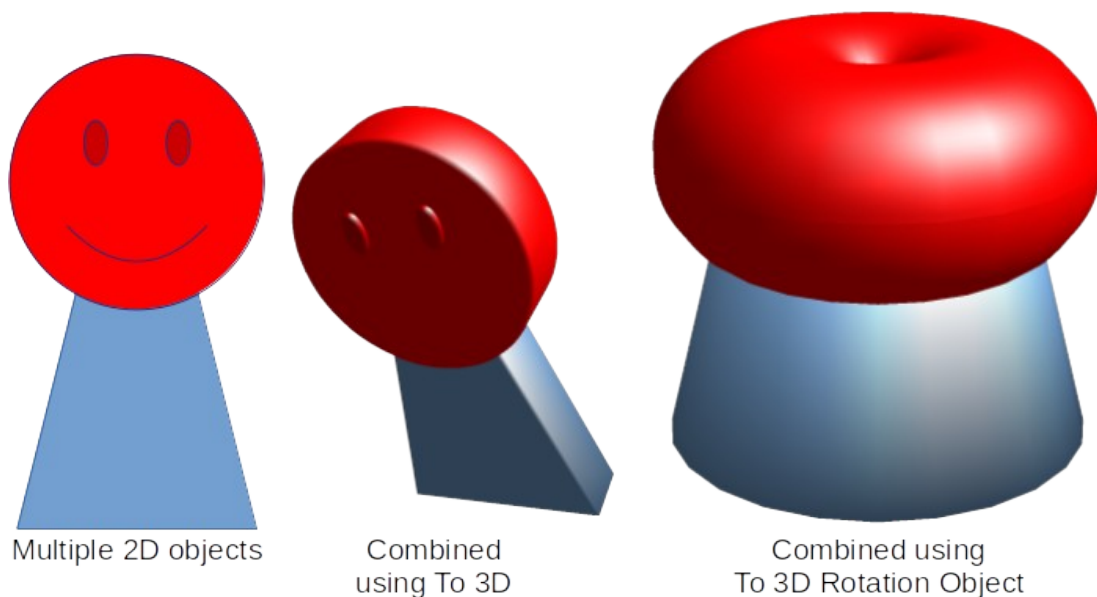

Figure 26: Example of creating single 3D object from multiple 2D objects
- 3) Create a single 3D object combining the multiple 2D objects using one of the following methods (example conversions are shown in Figure 26):